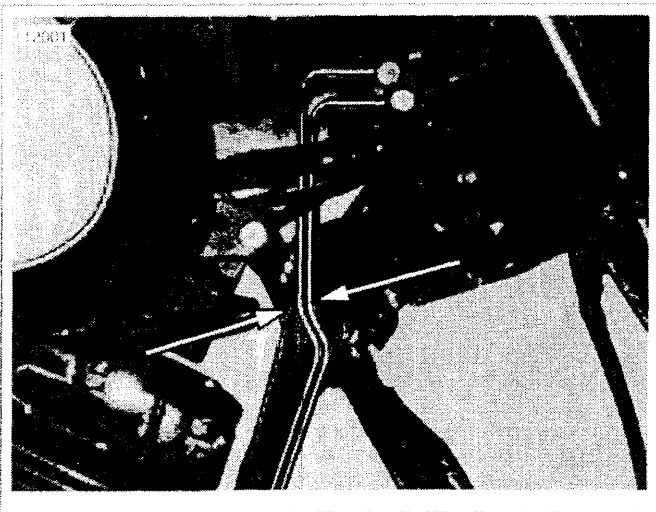

Figure 3. Correct Routing For Rearward Extending Brake Lines
- See Figure 3. Routing is correct when both brake lines extending rearward from the brake manifold are evenly routed as they are followed down from the brake manifold.